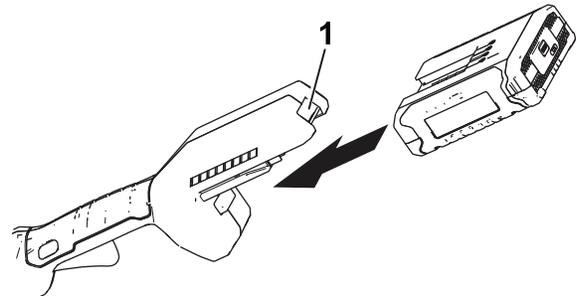

Figure 6
2. Align the cavity in the battery pack with the tongue on the handle housing (Figure 6).
3. Push the battery pack into the handle until the battery pack locks into the latch (Figure 6).